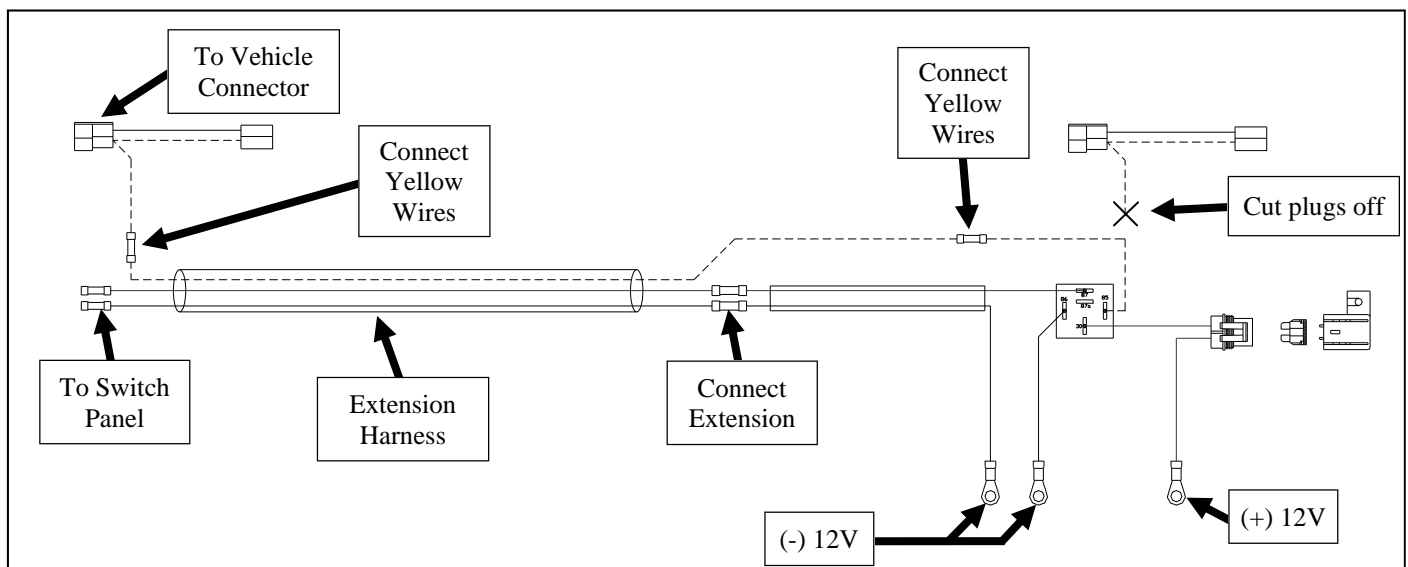

Figure 2.4 - Wire Connections (4 Passenger)
4 Passenger only: (Use Figure 2.4 as a reference)
2.7 Cut back the jacketing on the end of the wire coming from the switch panel and strip the ends of the two wires. Crimp the wires into the butt connectors at the end of the tie-in harness as shown in Figure 2.4. The wires should be connected white to red and black to black. Be sure the wires are routed under the seat base when crimped so they will not be pinched.